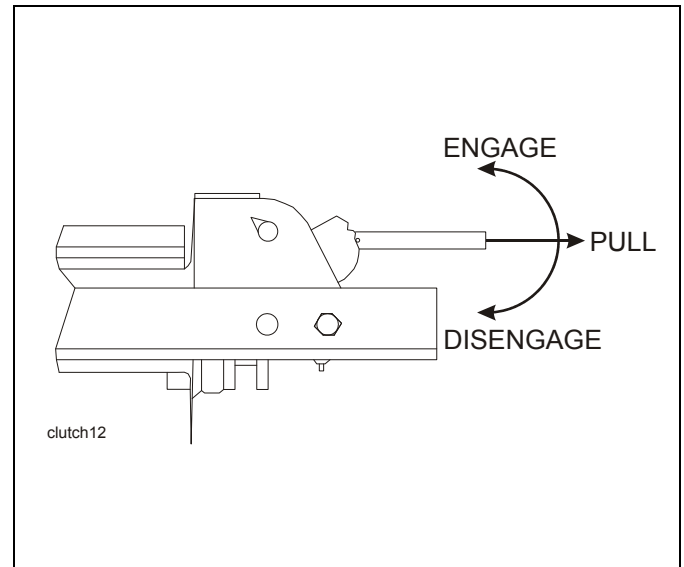

Figure 3-4: 12,000# Winch Clutch
- a. The **12,000#** winch clutch handle must be pulled out to change positions and pushed in to lock into one of two positions (**See Figure 3-4.**):